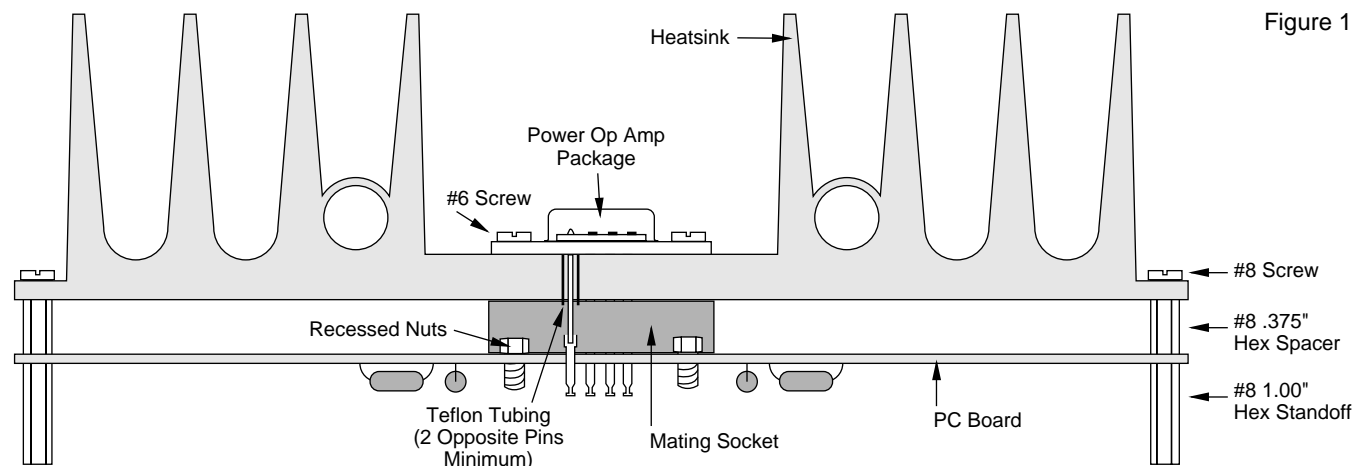

Figure 1
3. Solder the socket in place (see Figure 1). Be sure the nuts are in the recesses prior to soldering.